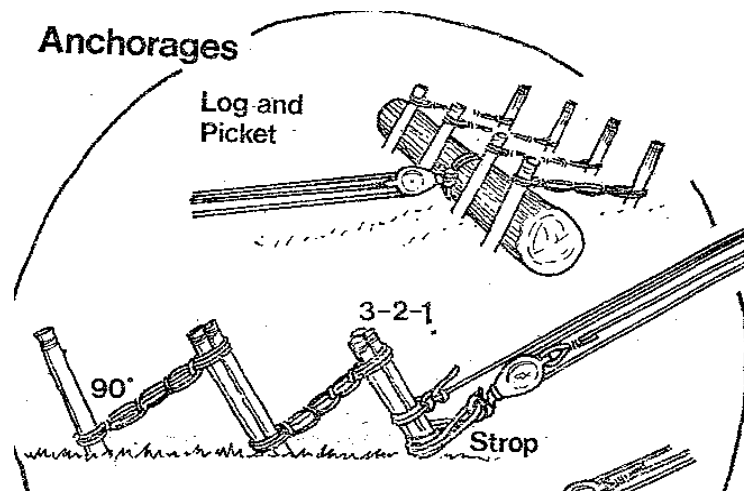

Figure 3.3: Methods of Anchorage.
4. A rope that is used as a means of moving someone over a section of ground between two trestles must be set up so that the tension is not lost in the stretch of the rope. The rope should be securely fastened by being attached to a tree or with pegs being backed up in the ground by solid anchorages. It also needs to be tensioned so that there is limited stretch. Refer to Figure 3.3 for methods of anchorage.